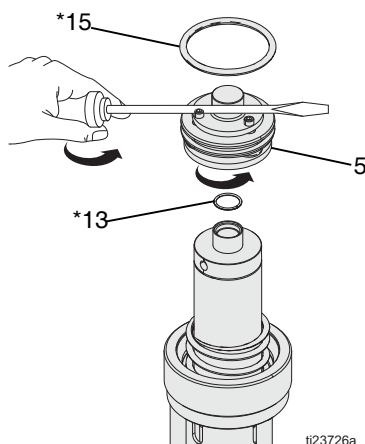

FIG. 12 Series B Air Valve
4. **Series B (and later Air Motors):** Unscrew air valve (5). If necessary to assist turning, wedge a screwdriver blade between the screw heads and the hex cap of the air valve (5). Inspect O-rings (13* and 15*) for damage and replace if necessary. Ensure O-ring (13*) is correctly positioned and not pinched. See FIG. 12.
NOTE: See **Repair the Air Motor**, page 15, step 4 and step 5 (FIG. 12) for special notes on reassembly.